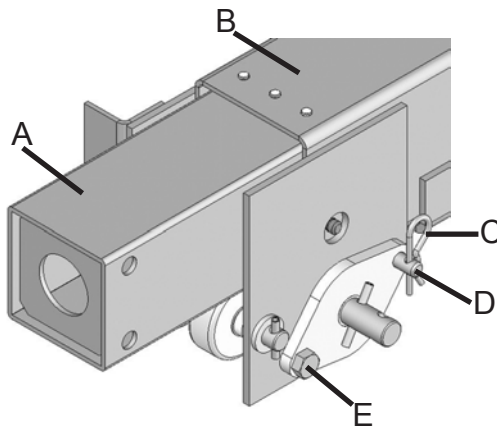

Fig. 5 - Gear Pack Assembly
2. Pull Cotter Pin (Fig. 5C) on Gear Pack Assembly Fig. 5